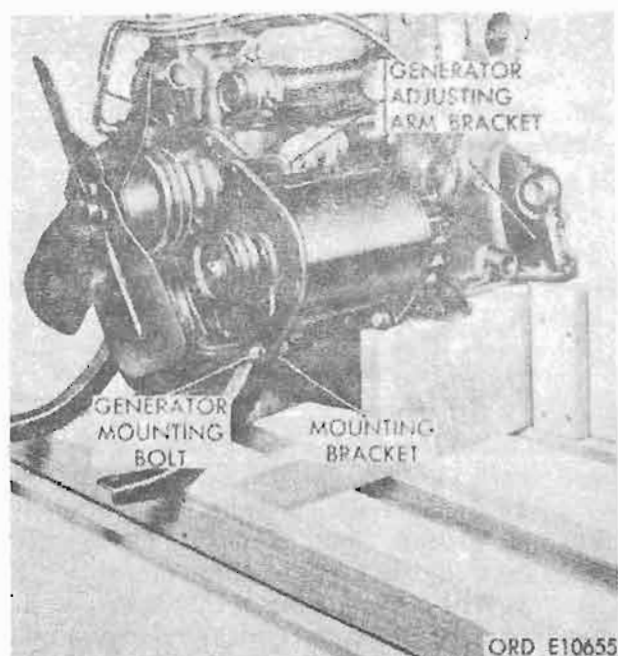

Figure 4-296. Generator assembly.
b. Install Generator Assembly (fig. 4-296).